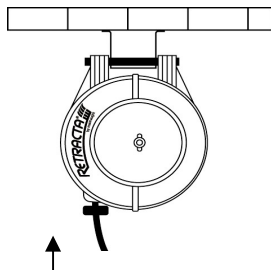

Fig.2 Overhead mounting (max height 4.5m)
2) Prevent the reel from swiveling in the overhead position (figure 2) by install locking bracket RP157 (supplied).